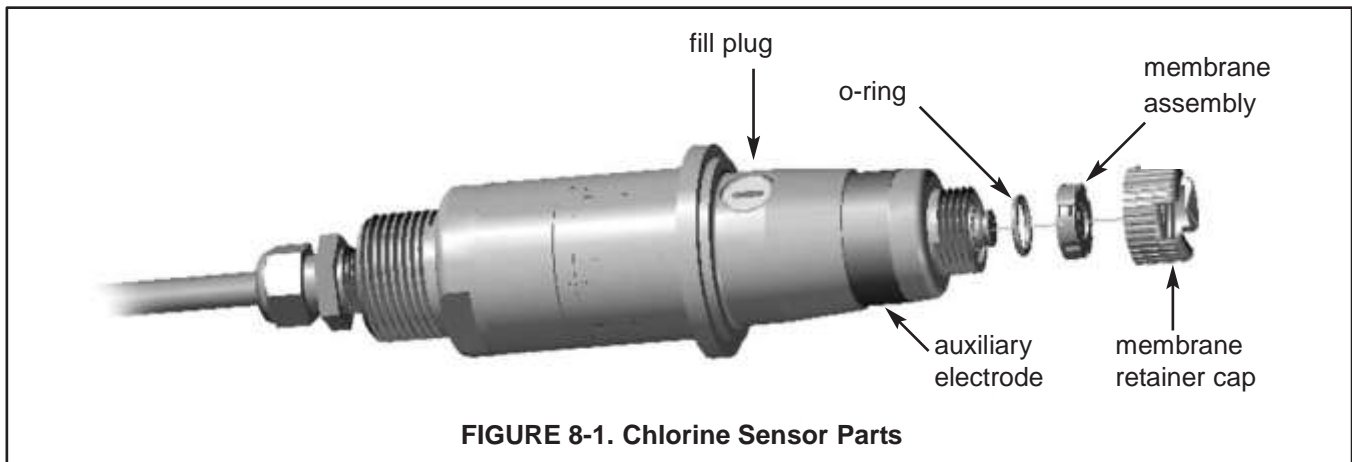

FIGURE 8-1. Chlorine Sensor Parts
1. Unscrew the membrane retainer and remove the membrane assembly and O-ring. See Figure 8-1.